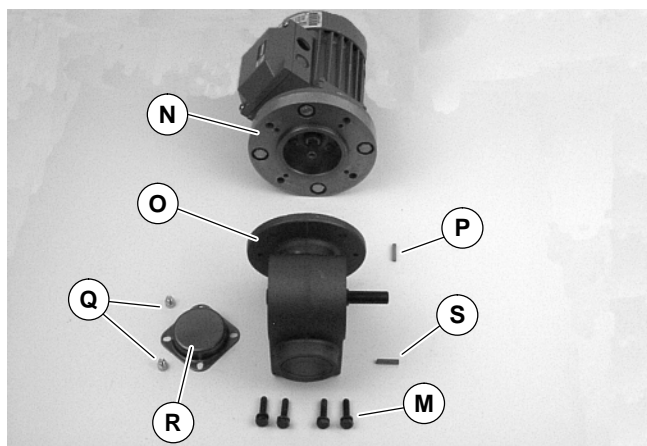

Figure 12
6. Remove four screws (M of Figure 12). Detach motor with adapter flange (N) from gear reducer (O). Retain motor output shaft key (P).
**NOTE:** Allow Loctite® Adhesive to cure for one (1) hour prior to starting conveyor.
11. With key (P of Figure 12) in keyway, slide motor with adapter flange (N) and gear reducer (O) together. Install screws (M) and tighten.